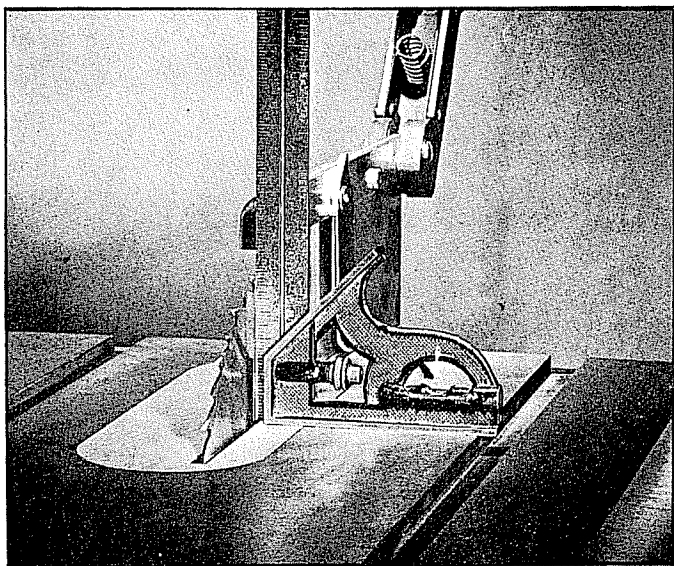

Fig. 9.
3. Place a square on the table as shown in Fig. 9, and check to see if the blade is at a perfect 90 degree angle.